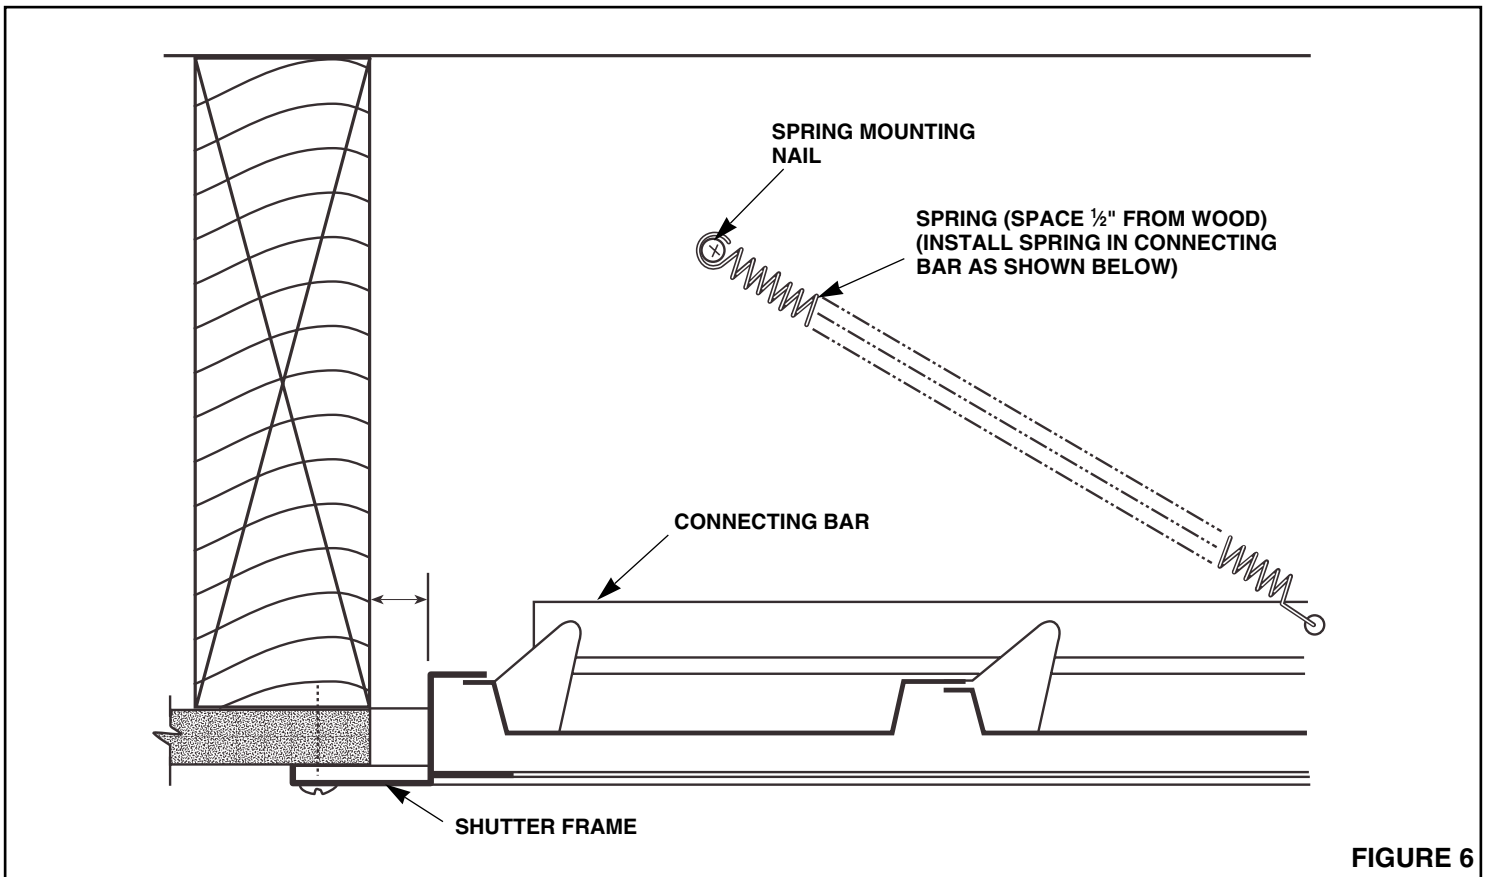

FIGURE 6
- Refer to Figure 6.** Install louver at this time. Louver must be installed with ½" clearance on all sides. To accomplish this, place small marks ¾" from edge of cutout in ceiling. Use these marks to locate shutter and secure with hardware provided with the louver. Install louver opening assist springs. Springs should extend approximately 6" at a 30° angle above louver connecting bar (See illustration). Install nails in frame to hold springs. Allow nail head to protrude ½". Install springs between nails and holes in connecting rods.